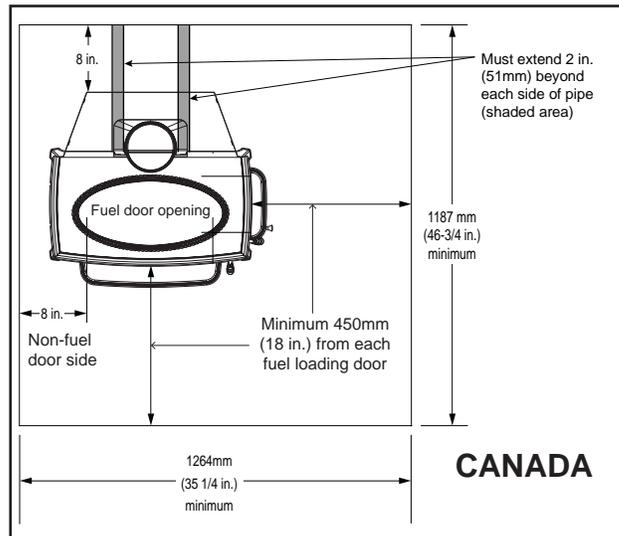

Figure 11.2
***EXCEPTION:** Non-combustible floor protections must extend beneath the flue pipe when installed with horizontal venting and extend 2 inches (51mm) beyond each side. **See Figure 11.2.**